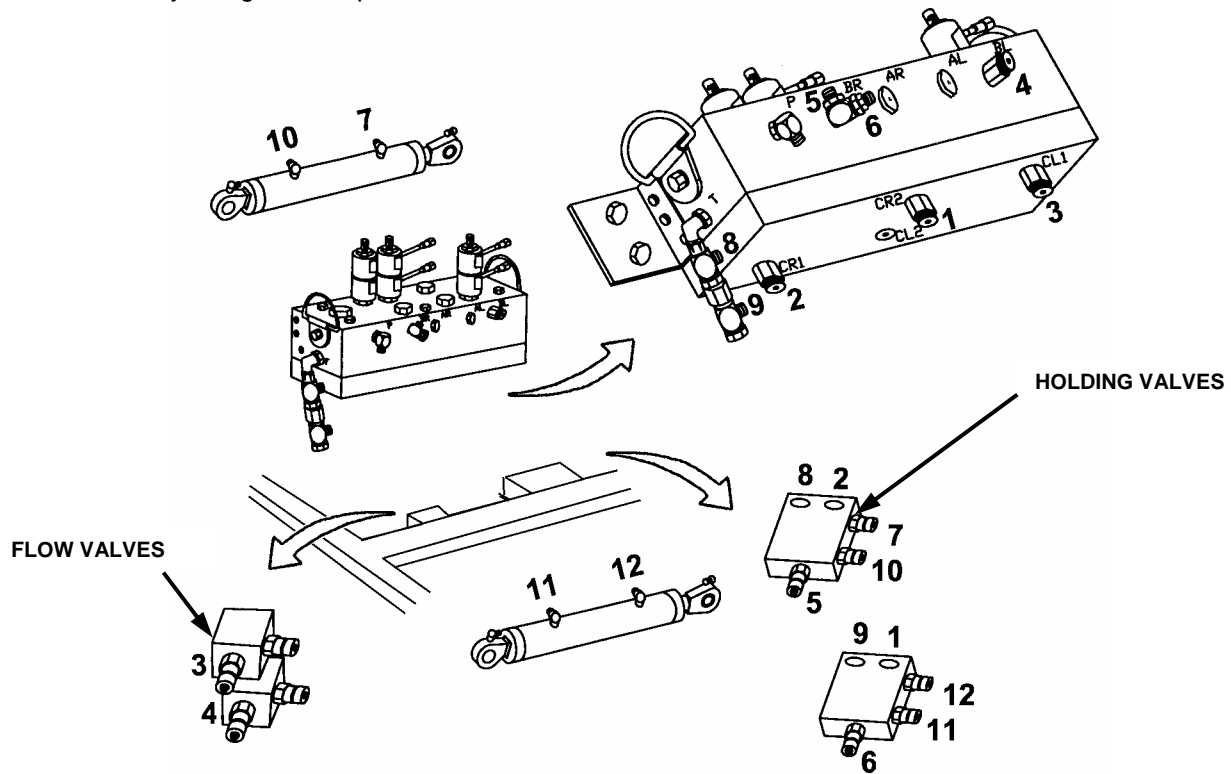

Figure 2-48. Hoses.
- I. Connect 12 hoses (Table 2-2 and Figures 2-48 and 2-49) to valves, cylinders, and track and blade manifold. Numbers by fittings are steps from Table 2-2.